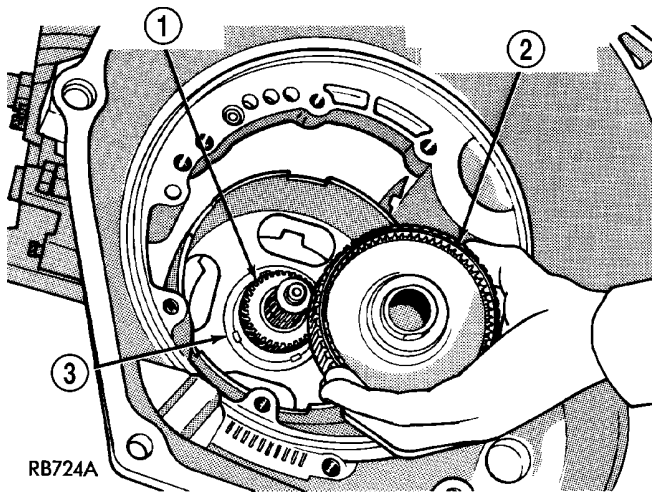

Fig. 52 Front Planetary Gear Assembly
(10) Install front planetary gear assembly (Fig. 52).